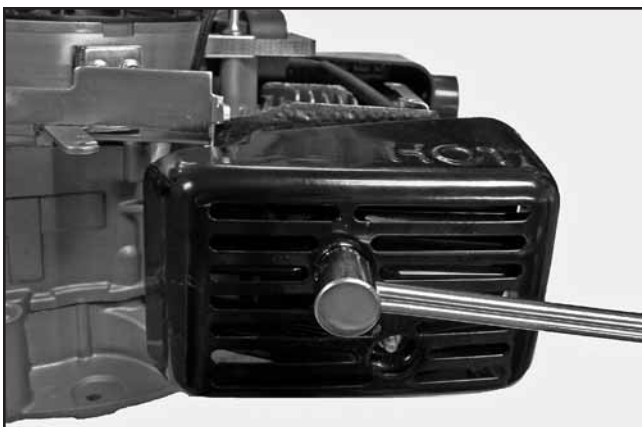

Figure 10-56. Installing Muffler Guard.
3. Install the muffler guard onto the exhaust studs. See Figure 10-56. Torque to 9.5 N·m (84 in. lb.).